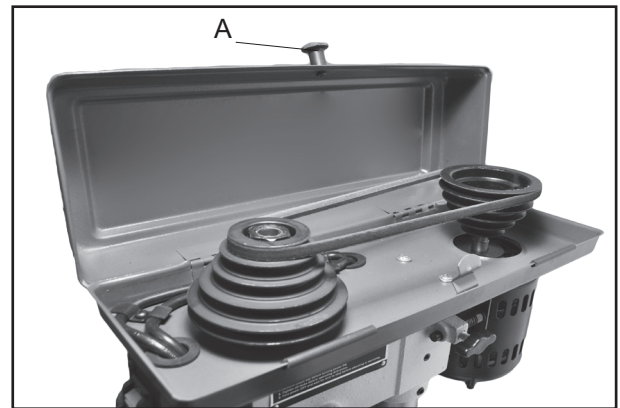

Fig.09
9. Changing Spindle Speed: The 30-100 Bench Drill Press has five spindle speeds. To change, lift the cover with the handle (A-Fig.09).